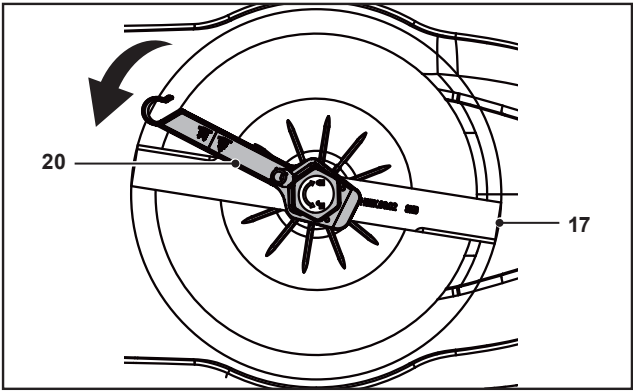

Fig. 5
2. Hold the cutting blade (17) firmly. Loosen the blade bolt using the spanner (20) and then remove the cutting blade (17) (Fig. 5).